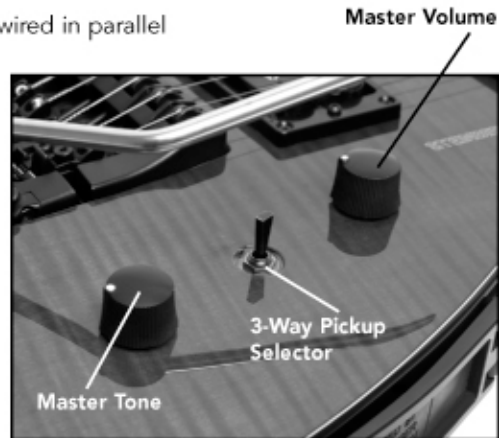

Figure 9
- If there is too much gap, the truss rod needs to be turned clockwise. Figure 9)